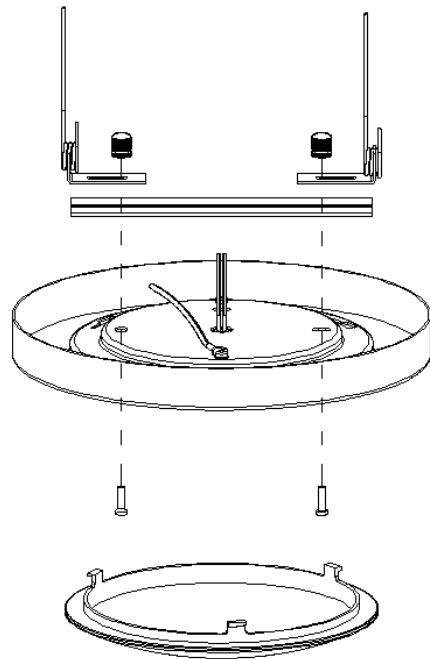

Fig. 2
3. Screw the socket adapter to socket in housing. (Fig.2)